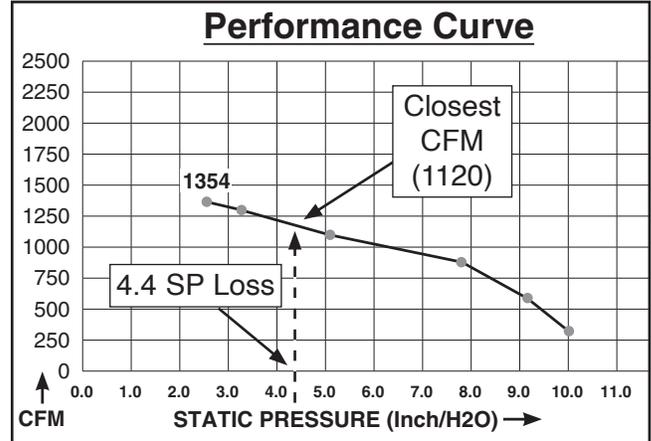

Figure 86. Example CFM for static pressure loss of line connected to a dust collector & router.
5. Compare the total static pressure loss for that line to the closest CFM given in **Figure 86** for your dust collector.
Example: A typical **Performance Curve** is illustrated in **Figure 86**. Find 4.4 on the Static Pressure axis (the amount of total static pressure loss calculated in **Figure 85**), then refer to the closest value on the CFM axis—approximately 1120 CFM.